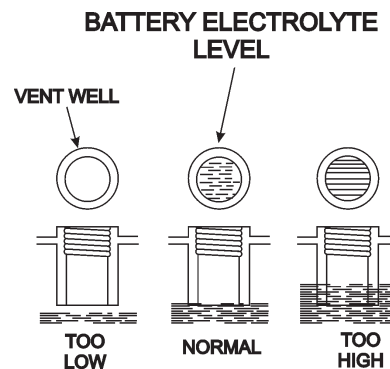

Figure 33. Battery Electrolyte Levels
- Check the battery regularly and make sure that each electrolyte level is to the bottom of the vent well (Figure 33). If necessary add only distilled water in a well-ventilated area.